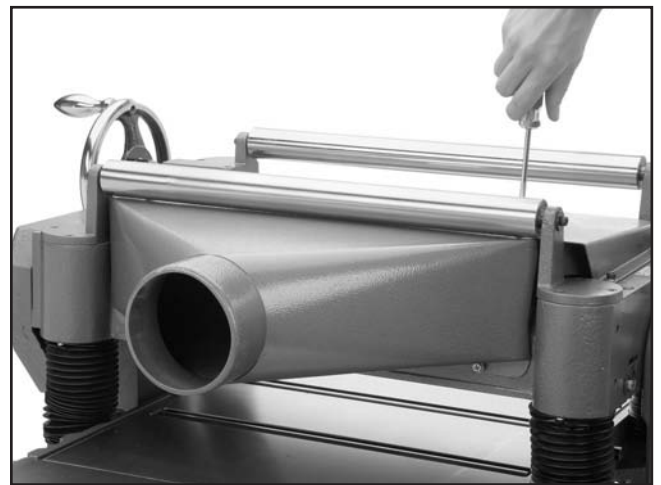

Figure 10. Dust hood attached.
1. Attach the dust hood to the planer with six flange bolts as shown in **Figure 10**.